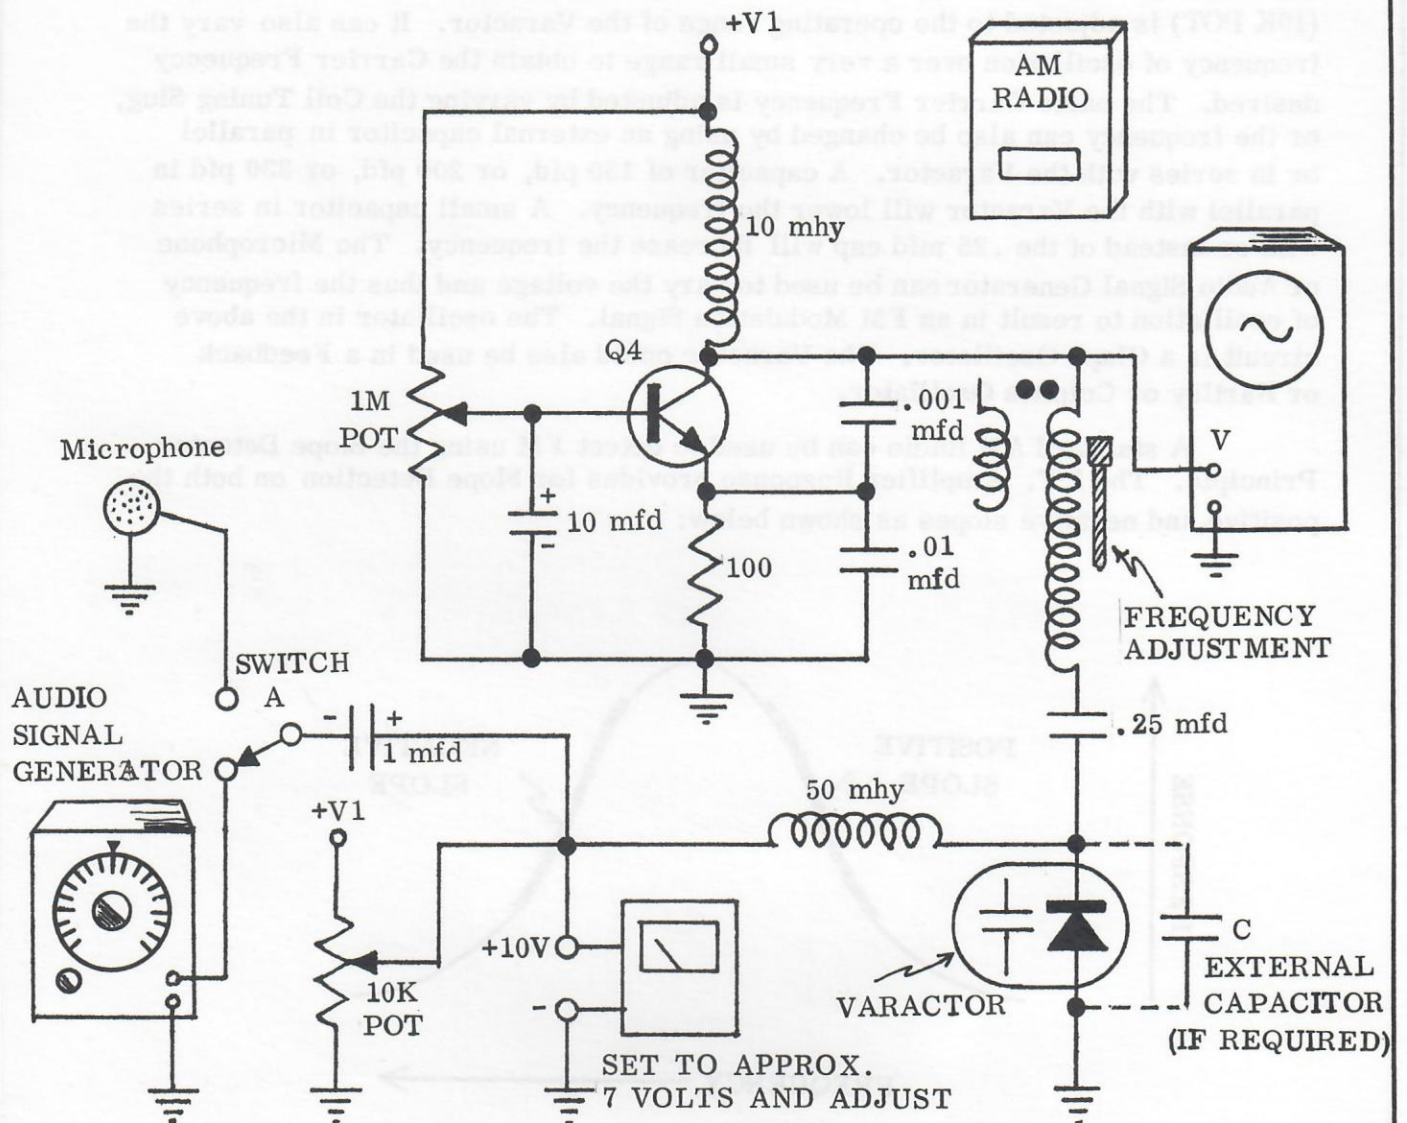

Figure 36 - 1 FM TEST GENERATOR
1. Wire the circuit in Figure 36 - 1.